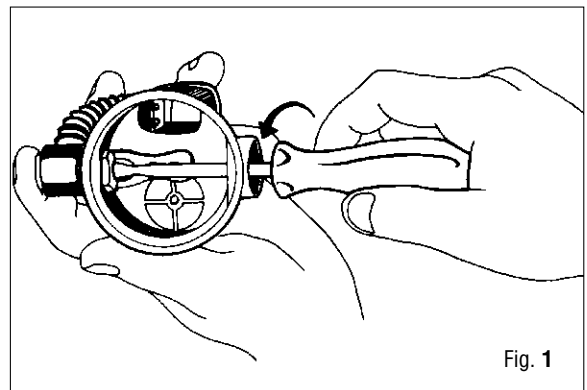

Fig. 1
19. With a 5.5 mm nut driver (B-12), unscrew the demand lever lock nut 33 from the poppet body 30, then remove the demand lever 35, and washer 34. (See Fig.1).